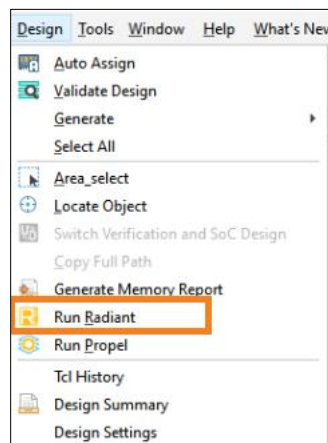

Figure 4.10. Launch the Lattice Radiant Software
- Click **Design > Run Radiant** or click the  icon on the toolbar to launch the Lattice Radiant software (Figure 4.10).